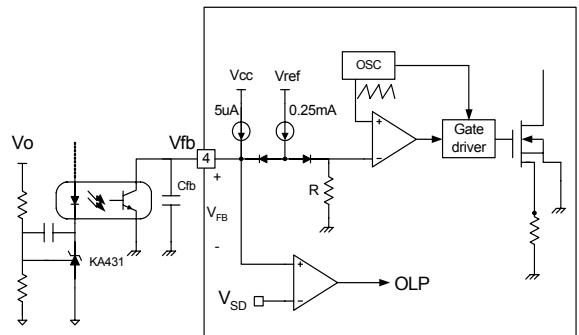

Figure 8. PWM and Feedback Circuit
**2. Feedback Control :** The FSD200B/210B are voltage mode controlled devices as shown in Figure 8. Usually , an opto-coupler and KA431 type voltage reference are used to implement the feedback network. The feedback voltage is compared with an internally generated sawtooth waveform. This directly controls the duty cycle. When the KA431 reference pin voltage exceeds the internal reference voltage of 2.5V, the optocoupler LED current increases, the feedback voltage Vfb is pulled down and it reduces the duty cycle. This will happen when the input voltage increases or the output load decreases.